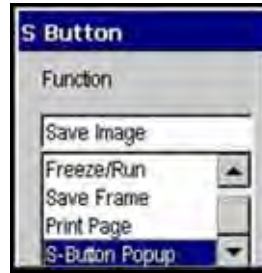

Figure 9-11 Sample S Button dialog box
2. The S Button dialog box displays (Figure 9-11).
- Select **Utilities > Easy Scroll** (Figure 9-11).